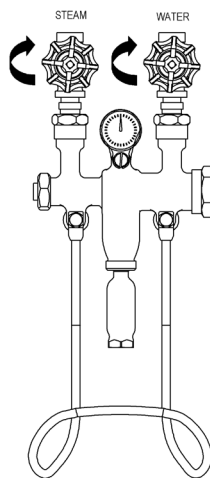

Figure 3:
1. Place Valve Ring (3), including O-ring, on Ring Seater tool as shown in Fig. 3 and drive into valve body as far as it will go keeping Ring Seater as straight as possible.
2. Drop Lantern (8) into body with large I.D. and wider band facing up making sure Lantern (8) sits evenly on ring.
3. Before installing Bonnet Assembly (10) into body, fully retract stem making sure spring is located between back of Piston (4) and Bonnet (10). Install into body. Tighten down Bonnet Nut (11) until refusal.